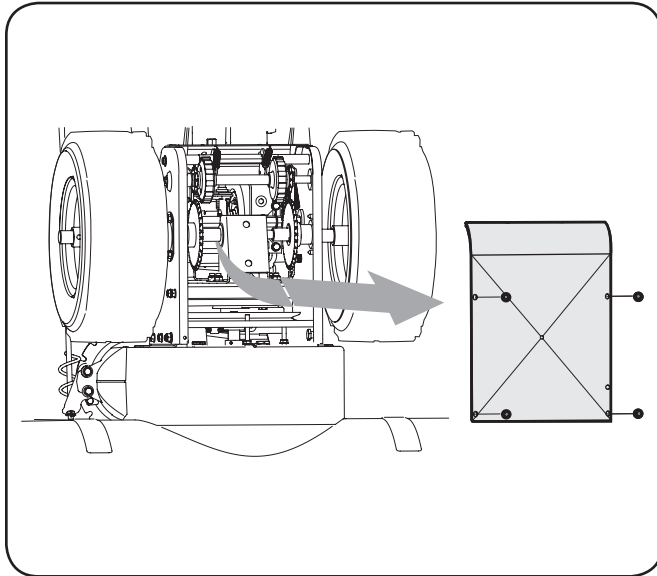

Figure 6-6
2. Remove the frame cover from the underside of the snow thrower by removing the self-tapping screws which secure it. Refer to Figure 6-6.
1. With the snow thrower tipped forward (before tipping the machine on to the front housing, run the fuel tank empty), remove the frame cover underneath the snow thrower by removing the self-tapping screws. See Figure 6-6.